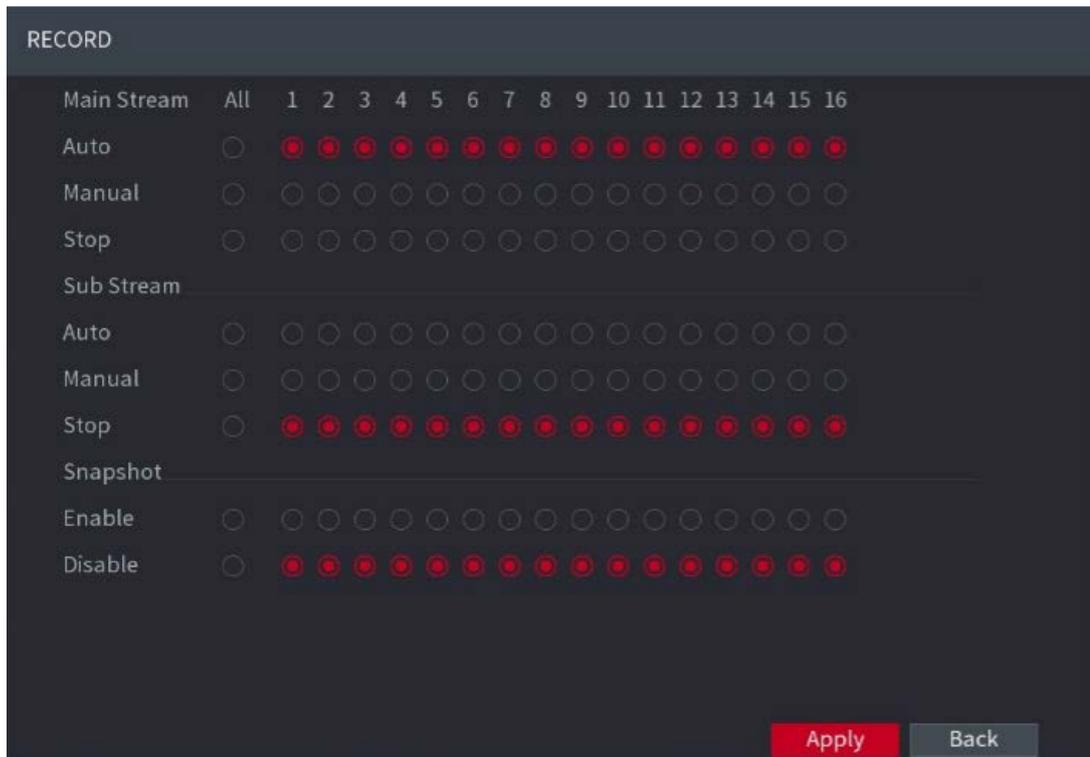

Figure 5-85
Step 1 Right-click on the live view screen, the shortcut menu is displayed. On the shortcut menu, select **Manual** → **Record Control**. The **RECORD** interface is displayed, see Figure 5-85.